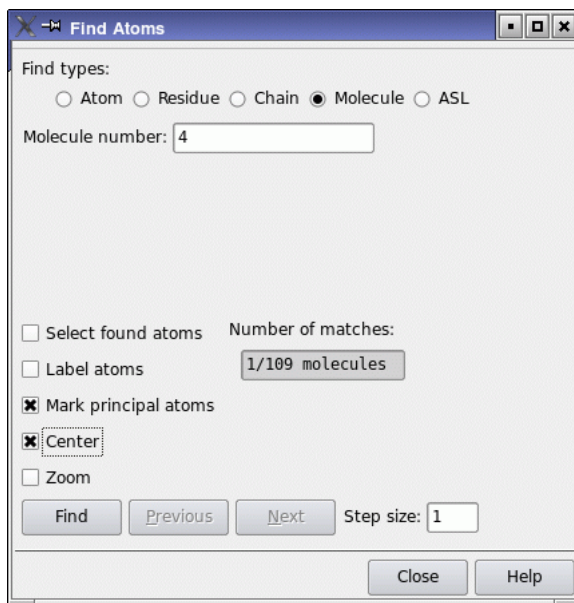

Figure 2.3. The Find Atoms panel.
1. From the Edit menu, choose Find to open the Find Atoms panel (see Figure 2.3).